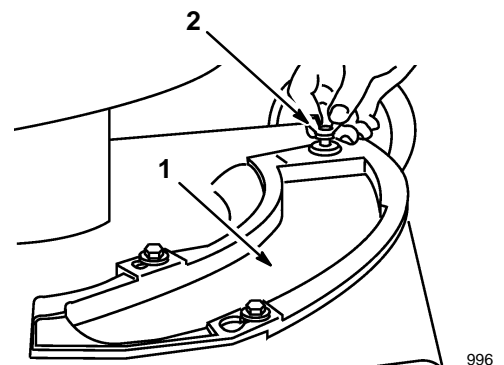

Figure 35
2. Remove the wing screw that fastens the cover plate to the housing (Fig. 35).
2. Remove the wing screw that fastens the mulch plate to the housing (Fig. 35).